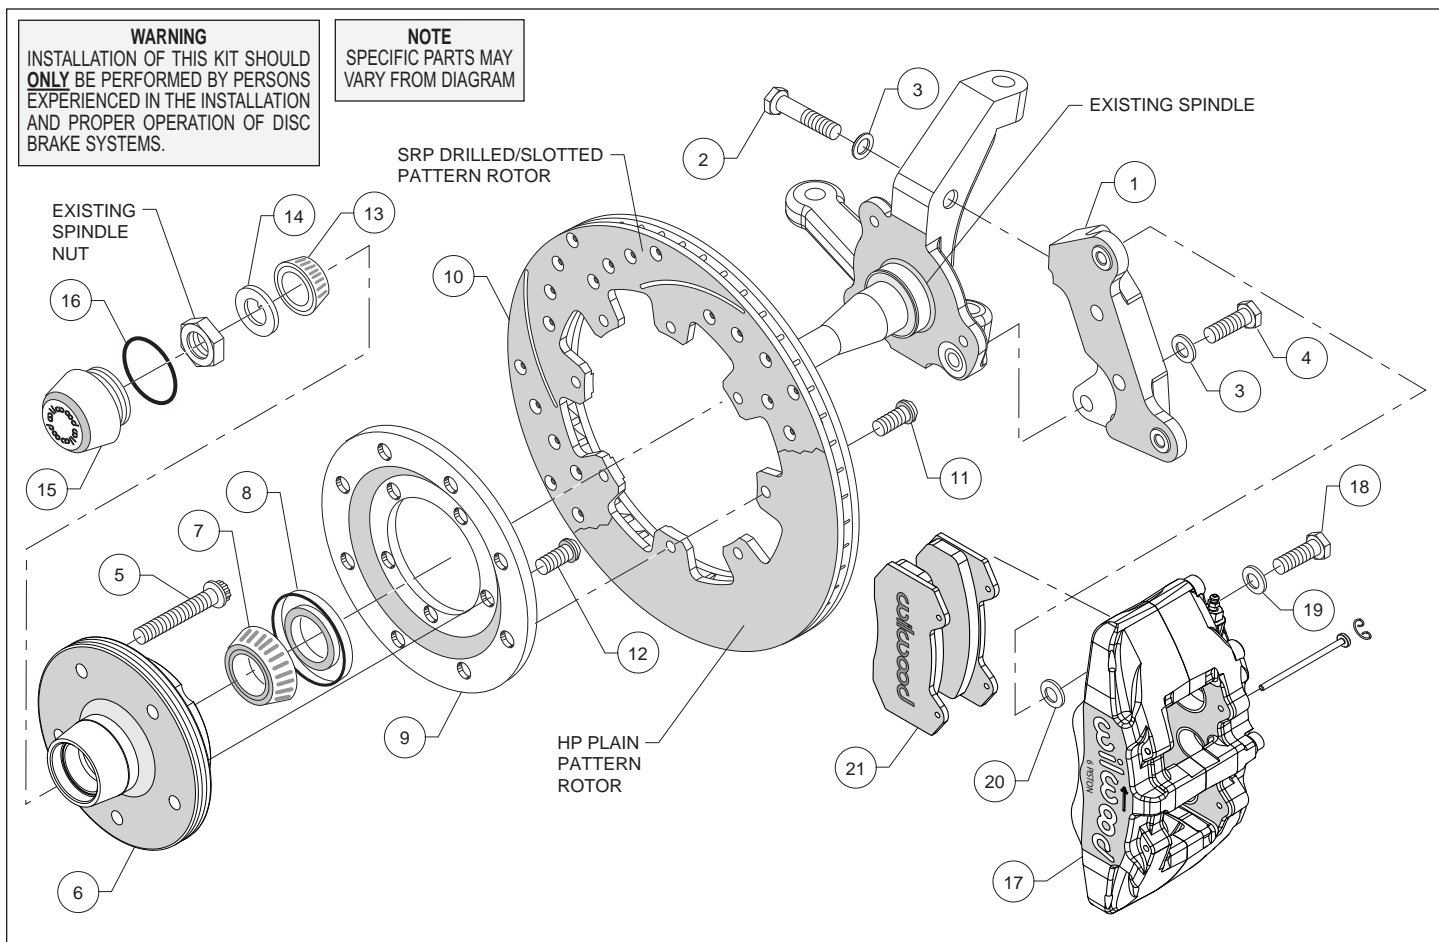
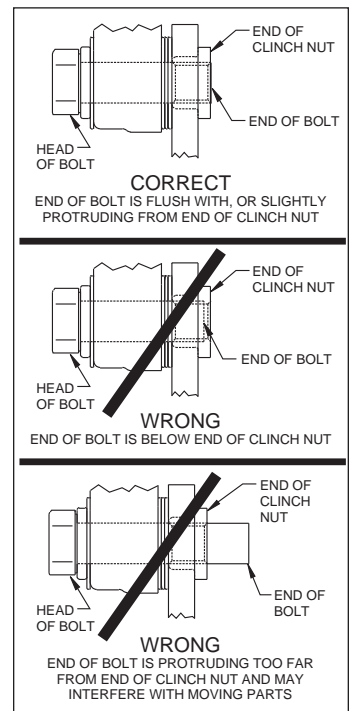

Figure 1. Typical Installation Configuration
Figure 3. Clinch Nut Engagement Diagram
Assembly Instructions (numbers in parenthesis refer to the part lists, and Figure 1):
CAUTION: All mounting bolts must fully engage insert nuts. Be sure to check that all bolts are either flush or protruding through flanged side of insert nut after shimming, Figure 3.
- Orient the caliper mounting bracket (1) on the inboard side of the spindle as shown in Figure 1. Install bracket using bolts (2 and 4), and washers (3), Figure 1. Ensure that the flanged heads of the clinch nuts in the bracket are facing outboard. Temporarily tighten the mounting bolts. **NOTE:** *The bracket must fit squarely against the mounting points on the spindle.* Inspect for interference from casting irregularities, machining ridges, burrs, etc. Remove bolts one at a time, apply red *Loctite*® 271 to threads, and torque bolts to 55 ft-lb.
- Install wheel studs (5) into the hub (6), Photo 1. Torque to 77 ft-lb.
- Pack the large inner bearing cone (7) with high temperature disc brake bearing grease (available from your local auto parts store) and install into the backside of the hub (6), Photo 2.
- Install the grease seal (8) by pressing into the backside of the hub (6), flush with the end of the hub, Photo 2.
- Orient the rotor (10) and the rotor adapter (9) as shown in Figure 1 and Photo 3. Attach the rotor to the adapter using bolts (11). Using an alternating sequence, apply red *Loctite*® 271 to the threads, and torque to 25 ft-lb.
- Mount the adapter/rotor assembly (9 and 10) to the hub (6) using bolts (12), as shown in Figure 1 and Photo 4. Using an alternating sequence, apply red *Loctite*® 271 to the threads, and torque to 45 ft-lb.
- NOTE:** Please reference the caution statement at the beginning of the assembly instructions. This kit contains distinct right and left hand calipers that must be mounted in a specific direction, as described below. Mount the caliper (17) onto the caliper bracket (1) using bolts (18) and washer (19) as shown in Figure 1. Initially place one .035" thick shim (20) on each bolt between the caliper and the bracket, Photo 7. Ensure that the caliper is mounted so the largest pistons are at the rotor exit end of the caliper, in relation to the direction of rotor rotation. Temporarily tighten the mounting bolts and view the rotor (10) through the top opening of the caliper (17). The rotor should be centered in the caliper, Photo 8. If not, adjust by adding or subtracting shims (20) between the bracket and the caliper. Always use the same amount of shims on each of the two mounting bolts. **NOTE:** The end of each bolt must be flush with or slightly protruding from the head of the clinch nut, as shown in Figure 3. If necessary place spare shims between washer (20) and caliper mounting ear to achieve the proper clinch nut engagement. Once the caliper alignment and clinch nut engagement are correct, remove the mounting bolts, washers, shims and caliper.
- Remove the two pad retaining pins from the caliper (17) by carefully popping out the pin retaining clips and sliding out the pins. Insert the brake pads (21) into the caliper from the bottom, Figure 1 and Photo 9, with the friction material facing the rotor. Secure the brake pads in place with the pad retaining pins and clips, Photo 10. Reinstall the caliper onto the caliper mounting bracket. Apply red *Loctite*® 271 to bolt threads (18), and torque to 40 ft-lb.